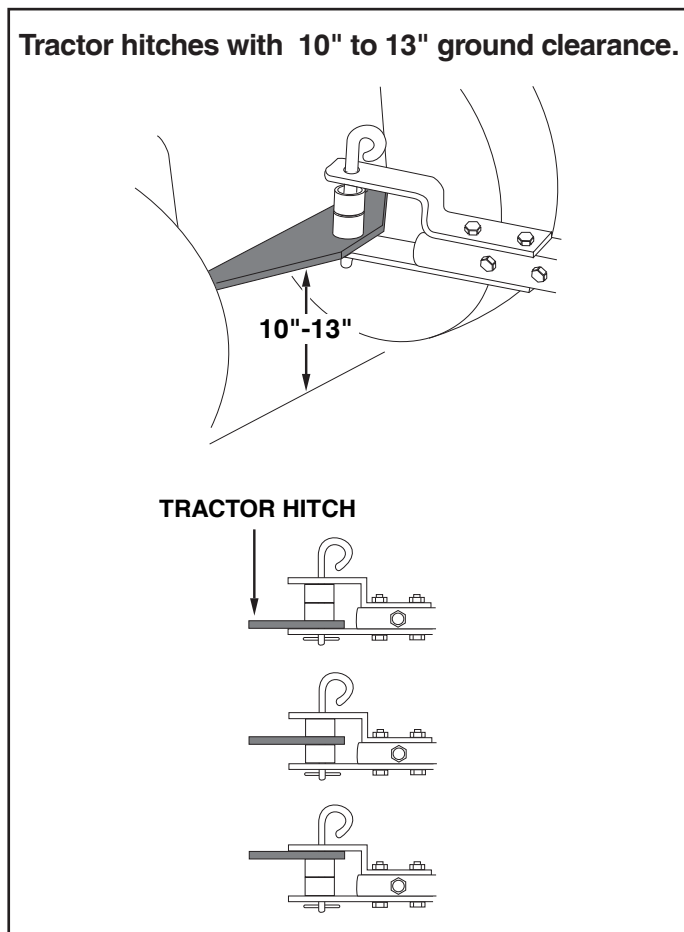

FIGURE 22
- Attach the sweeper hitch brackets to the tractor hitch, arranging the 3/4" spacers so that the bottom of the sweeper bag is approximately level and 5" to 7" above the ground. See figure 22 for tractor hitches that are 10" to 13" above the ground. See figure 23 for tractor hitches that are 8" to 10" above the ground.
- To adjust your sweeper brushes to the best operating height, loosen the adjustment knob and push down on the height adjustment lever to raise the brush, or push up on the lever to lower the brush. See figure 22. Best adjustment is when the brush setting is 1/2" down into the grass. Always mow the grass to an even height before sweeping.